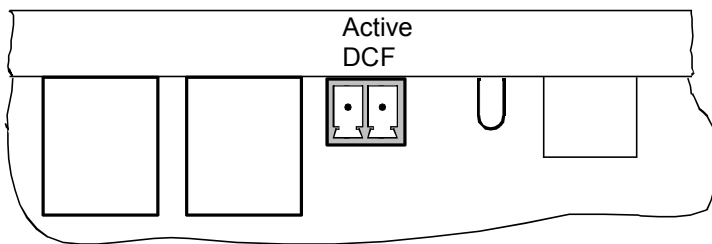

Fig. 5
- Connect clock line signal (Active DCF) to the "Active DCF" connector (Fig. 5).